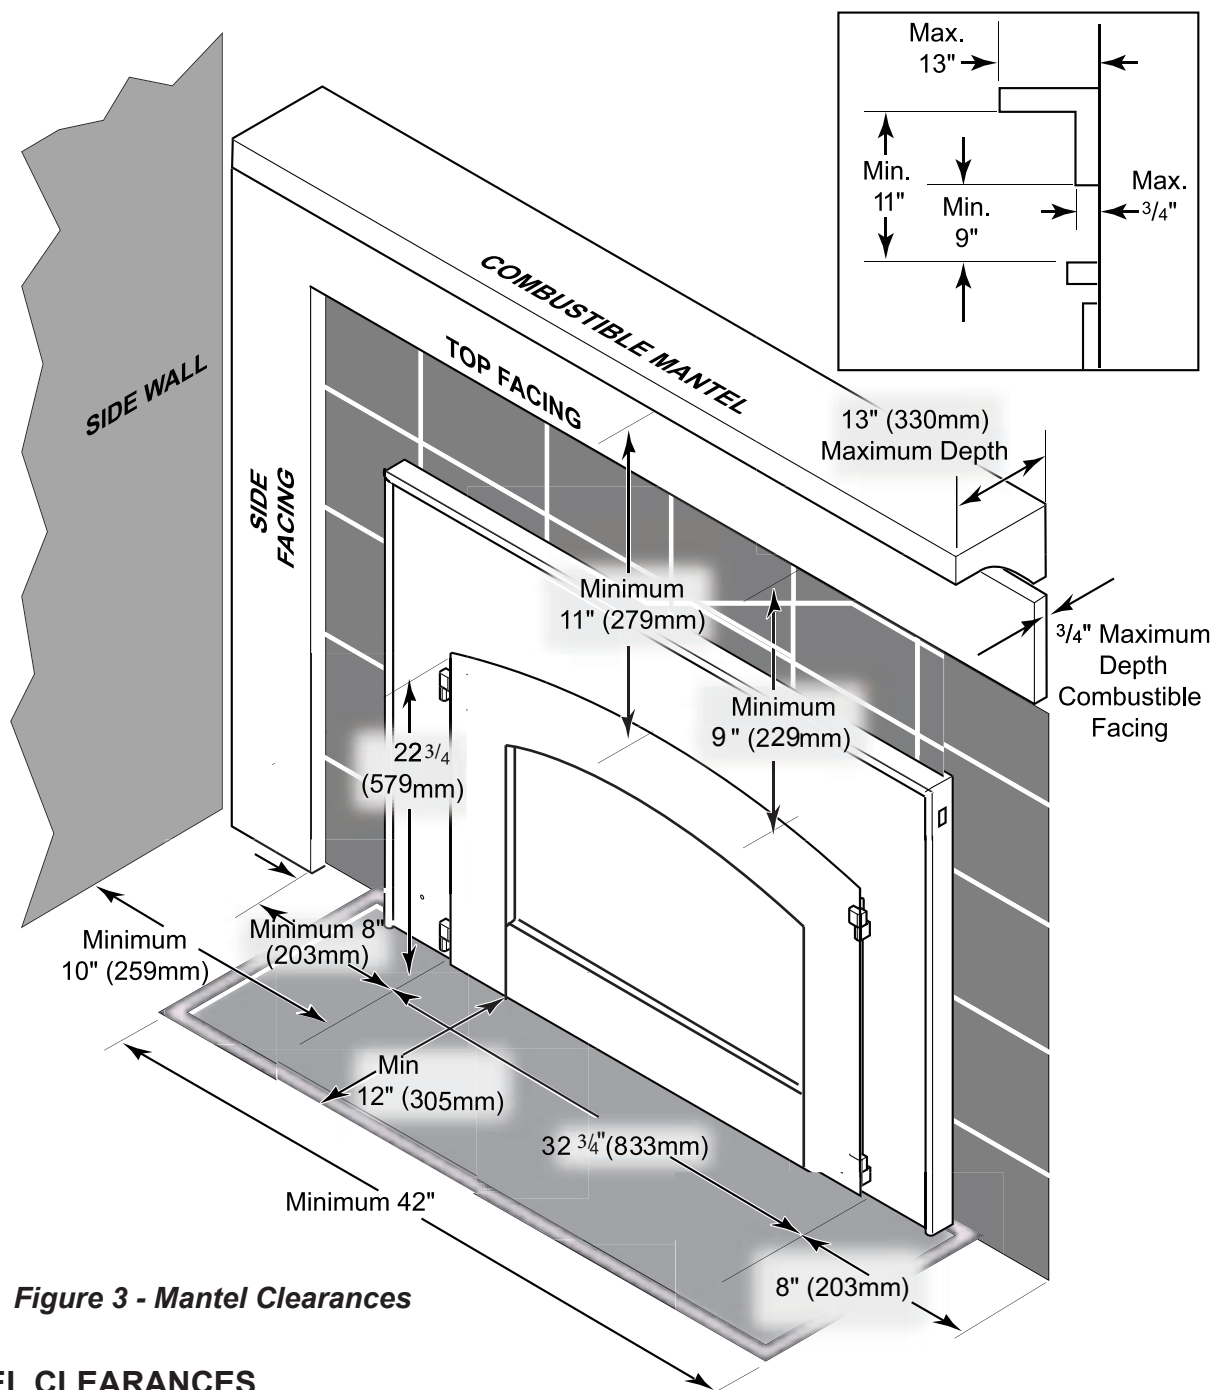

Figure 3 - Mantel Clearances
- Minimum clearances to combustibles, such as mantels, **must be maintained**. See *Figures 3 and 4, pages 9 and 10*.
WARNING The dimensions shown in *Figures 3 and 4, pages 9 and 10*, are minimum clearances to maintain when installing this heater. Follow these instructions carefully to ensure safe installation. Failure to follow instructions exactly can create a fire hazard.